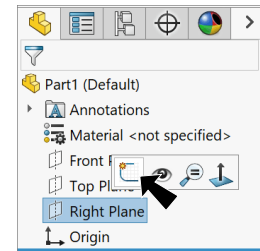
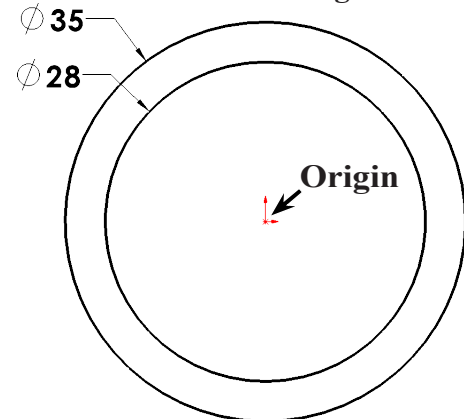

Fig. 1
Fig. 2
Step 2. Click **Right Plane**  in the Feature Manager and click **Sketch**  on the context toolbar, **Fig. 1**.
Step 3. Click **Circle**  (S) on the Sketch toolbar.
Step 4. Sketch **two circles at Origin** , **Fig. 2**.
Step 5. Click **Smart Dimension**  (S) on the Sketch toolbar.
Step 6. Dimension **diameters 35 and 28**, **Fig. 2**.